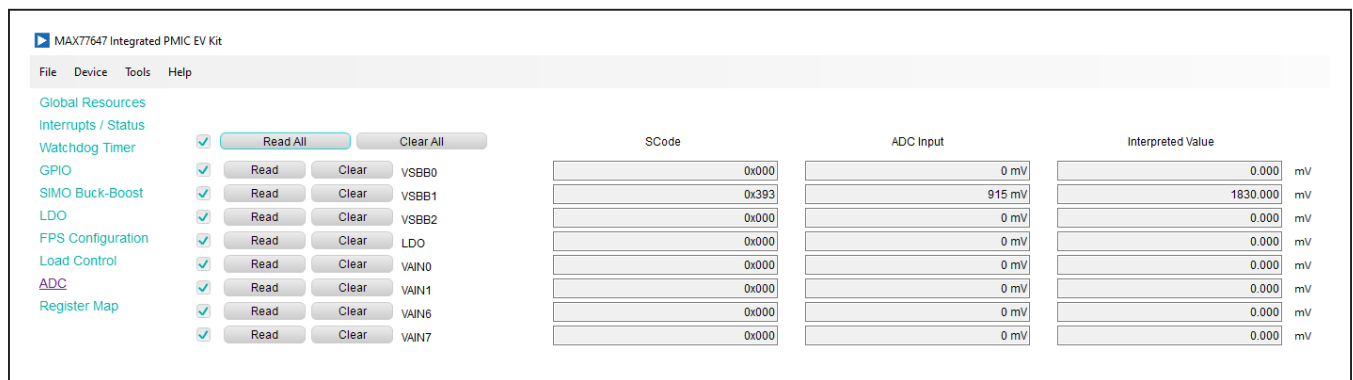

Figure 6. Regulator Check with ADC
- 8) On the **ADC** tab of the GUI, click the **Read All** button. For MAX77647AANP+, 1.8V should appear for VSBB1 (see Figure 6).